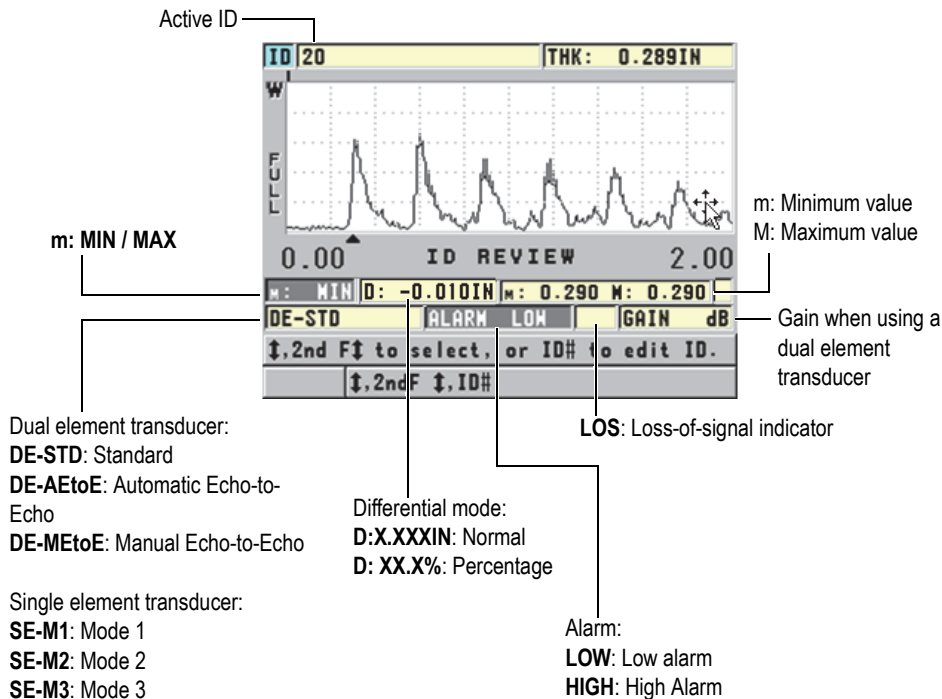

Figure 6-36 Identifying the ID review screen
Figure 6-36 on page 118 shows an example of the ID review screen and describes its contents. The area under the waveform is reserved for status flags describing the displayed stored thickness values. The flags are the same single letter abbreviations for status words transmitted by the gage using the send commands (see “Managing Communications and Data Transfer” on page 187).
3. While in the ID review screen (see Figure 6-36 on page 118), perform the following actions: